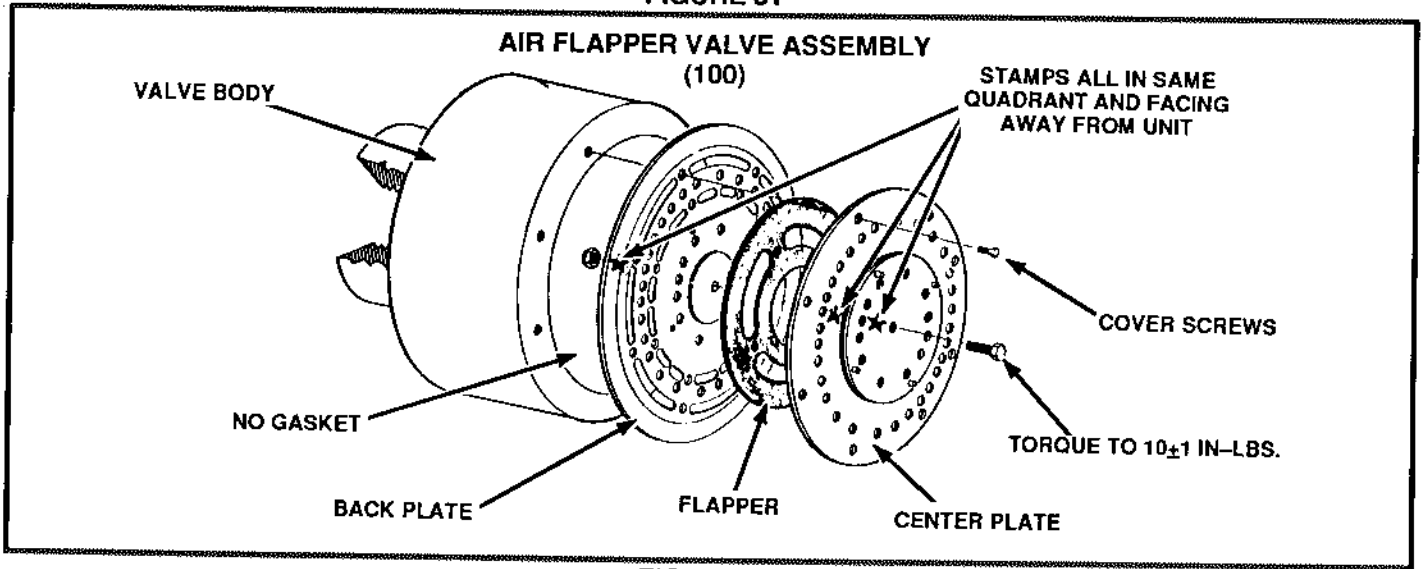

FIGURE 32
- 3- EXTREME CARE SHOULD BE TAKEN WHEN DISASSEMBLING THE INTERNAL COMPONENTS OF THE VALVE. If taken apart, the plates can be rotated out of phase or reversed. The spacer thickness has an extremely low tolerance. Note that each plate has a stamp of the spacer thickness and a star or the words "THIS SIDE OUT." These stamps should all lie in the same quadrant (figure 32) and face the outside of the unit.